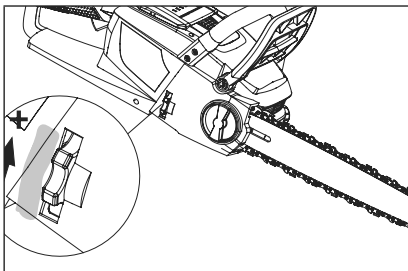

FIG. 14
- Stop the motor and remove the battery pack before adjusting the chain tension. Make sure the side cover knob is loosened. Turn the chain tensioning knob clockwise to tension the chain (Fig. 14)